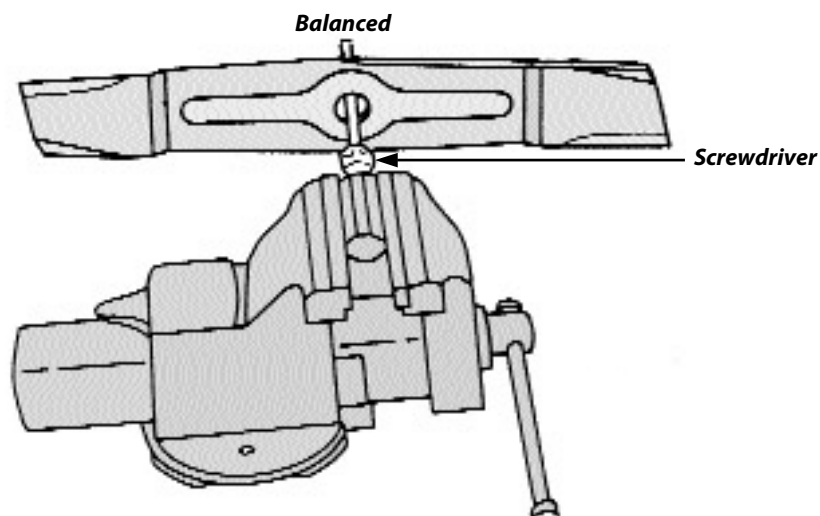

Figure 31
1. After sharpening the Blade, hang it on the Balancer and check the level (**Figure 31**). If one side of the Blade tips lower than the other side, sharpen the lower end a little at time until the Blade is level (balanced).